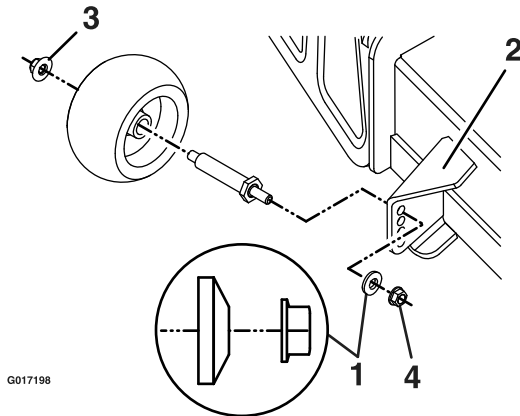

Figure 18
- Torque the 3/8–16 whizlock nut to 27-33 ft-lb (37-45 N-m) (Figure 18).